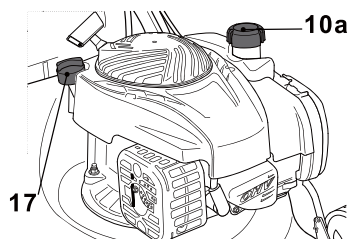

Fig. 8
3. Unscrew and remove the fuel tank cap (10a) (Fig. 8).